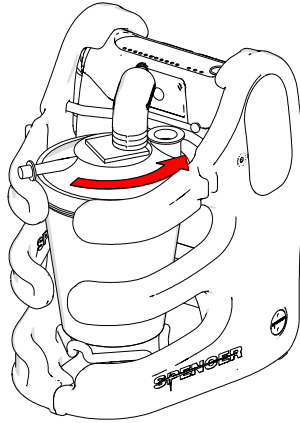

Fig. 7
2. Connect the assembly filter group/canister to the suction unit by turning the canister and the assembly filter to facilitate insertion (fig.7 e 8).